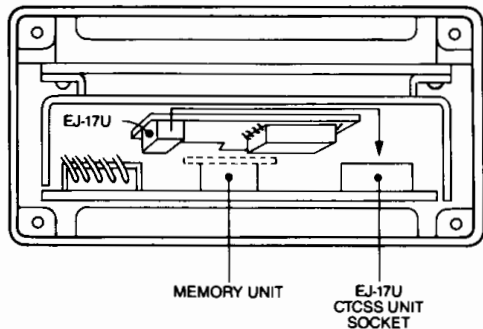

Fig. 1.
3. Install EJ-17U from the direction shown in Fig. 1.
6. Re-install the memory unit taken out in step (2).